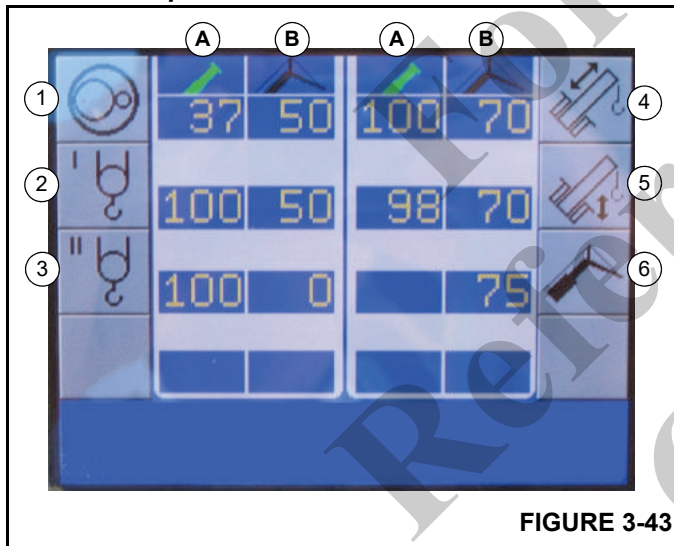

FIGURE 3-43
The symbols for the main boom (A) or boom with extension (B) (Figure 3-43) for the current operation will be green, indicating which configuration is active. To use the boom extension, symbol (6) must be active, press the F7 button.